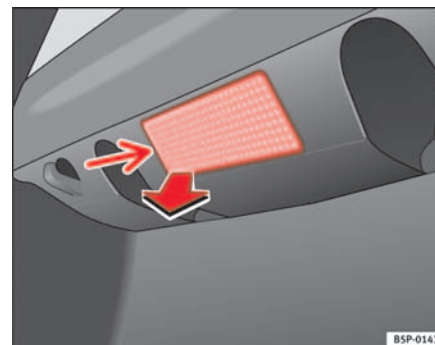

Fig. 187 Luggage compartment light
- Extract the tulip shaped fitting by pressing on the inside edge of this-arrow- using the flat side of a screwdriver. ⇒ fig. 187 ►